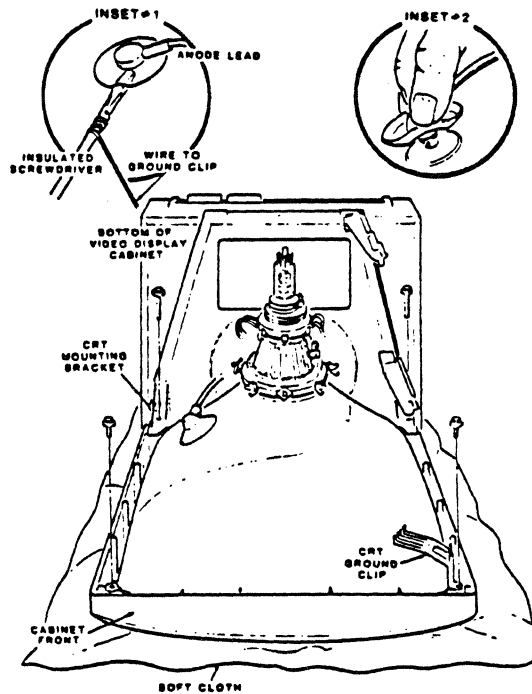

Figure 4-6
To remove the CRT for servicing, refer to Figure 4.6 while performing the following steps.
2. Refer to the inset drawing #1 on Figure 4.6 and discharge the CRT as shown.
3. Refer to the inset drawing #2 on Figure 4.6 and disconnect the anode lead from the CRT.